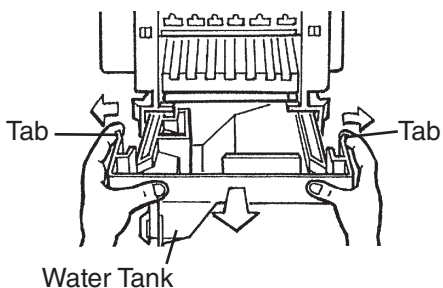

**Fig. 33**
- 2) Remove the slope from the ice storage bin by carefully bending it in the center and releasing it from the 2 slope shafts. See Fig. 33.